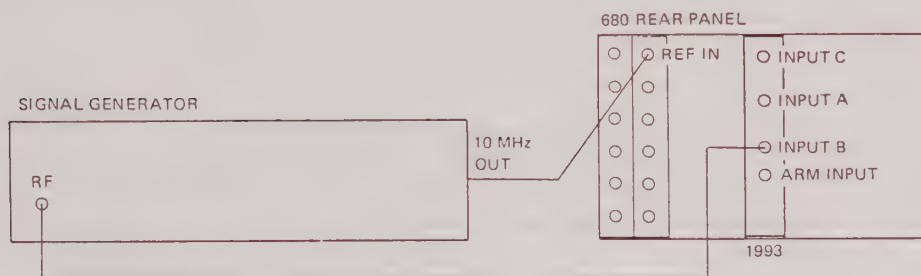

Fig. 6.9 Connections for Channel B Sensitivity PVP (I)
- (1) Select 50 ohms for channel B and Frequency B.
- (2) Connect the test equipment as shown in Fig. 6.9.